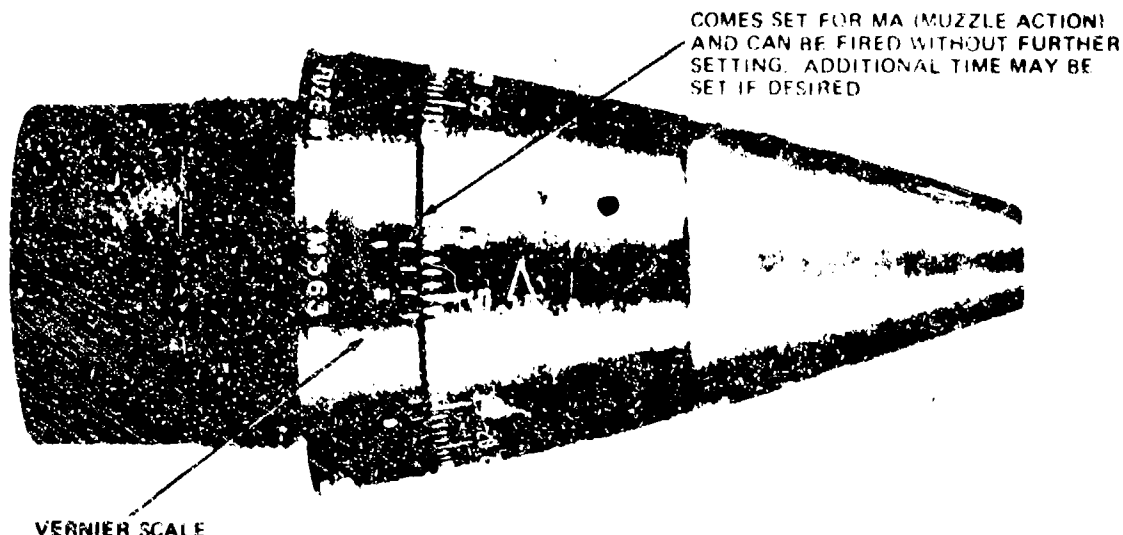

Figure 11-20. Fuze M563 mechanical time.
*b. M563 mechanical time fuze.* The M563 mechanical time fuze (fig 11-20) is a single-action fuze that comes set for muzzle action. The fuze can be set for any time of flight up to 100 seconds. The M563 mechanical time fuze was specifically developed for use with the 105-mm antipersonnel round, commonly called the Beehive round, and it is not used with any other projectile. It incorporates a time vernier scale similar to that of the M564 MTSQ fuze (c below) and is set for time in the same manner as that fuze (f below).